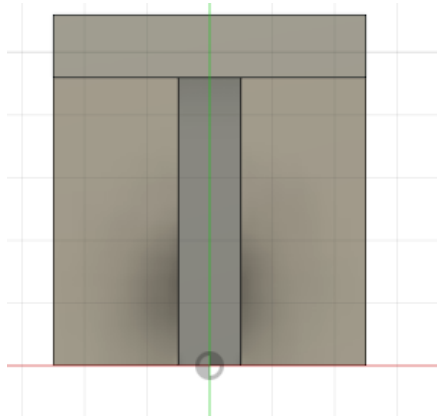

Fig. 8: Design platform
11. Select top face and “create sketch”. Your platform will be like in Fig. 8.